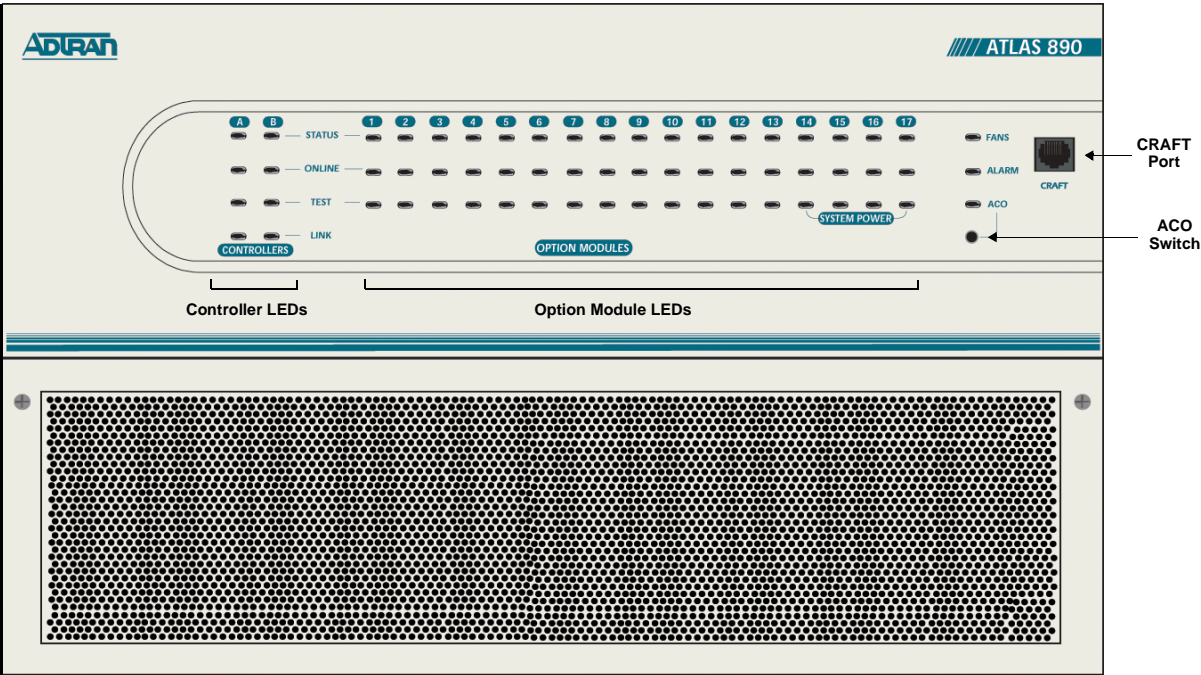

Figure 1. ATLAS 890 Front Panel Layout
- Figure 1. ATLAS 890 Front Panel Layout 3
The front panel contains the Alarm Cut-off (ACO) switch, the CRAFT port, and the controller and option module status LEDs. The LEDs provide visual information about the ATLAS 890 Base Unit and any option module that may be installed. Figure 1 identifies the ACO switch, the CRAFT port, and the LEDs.